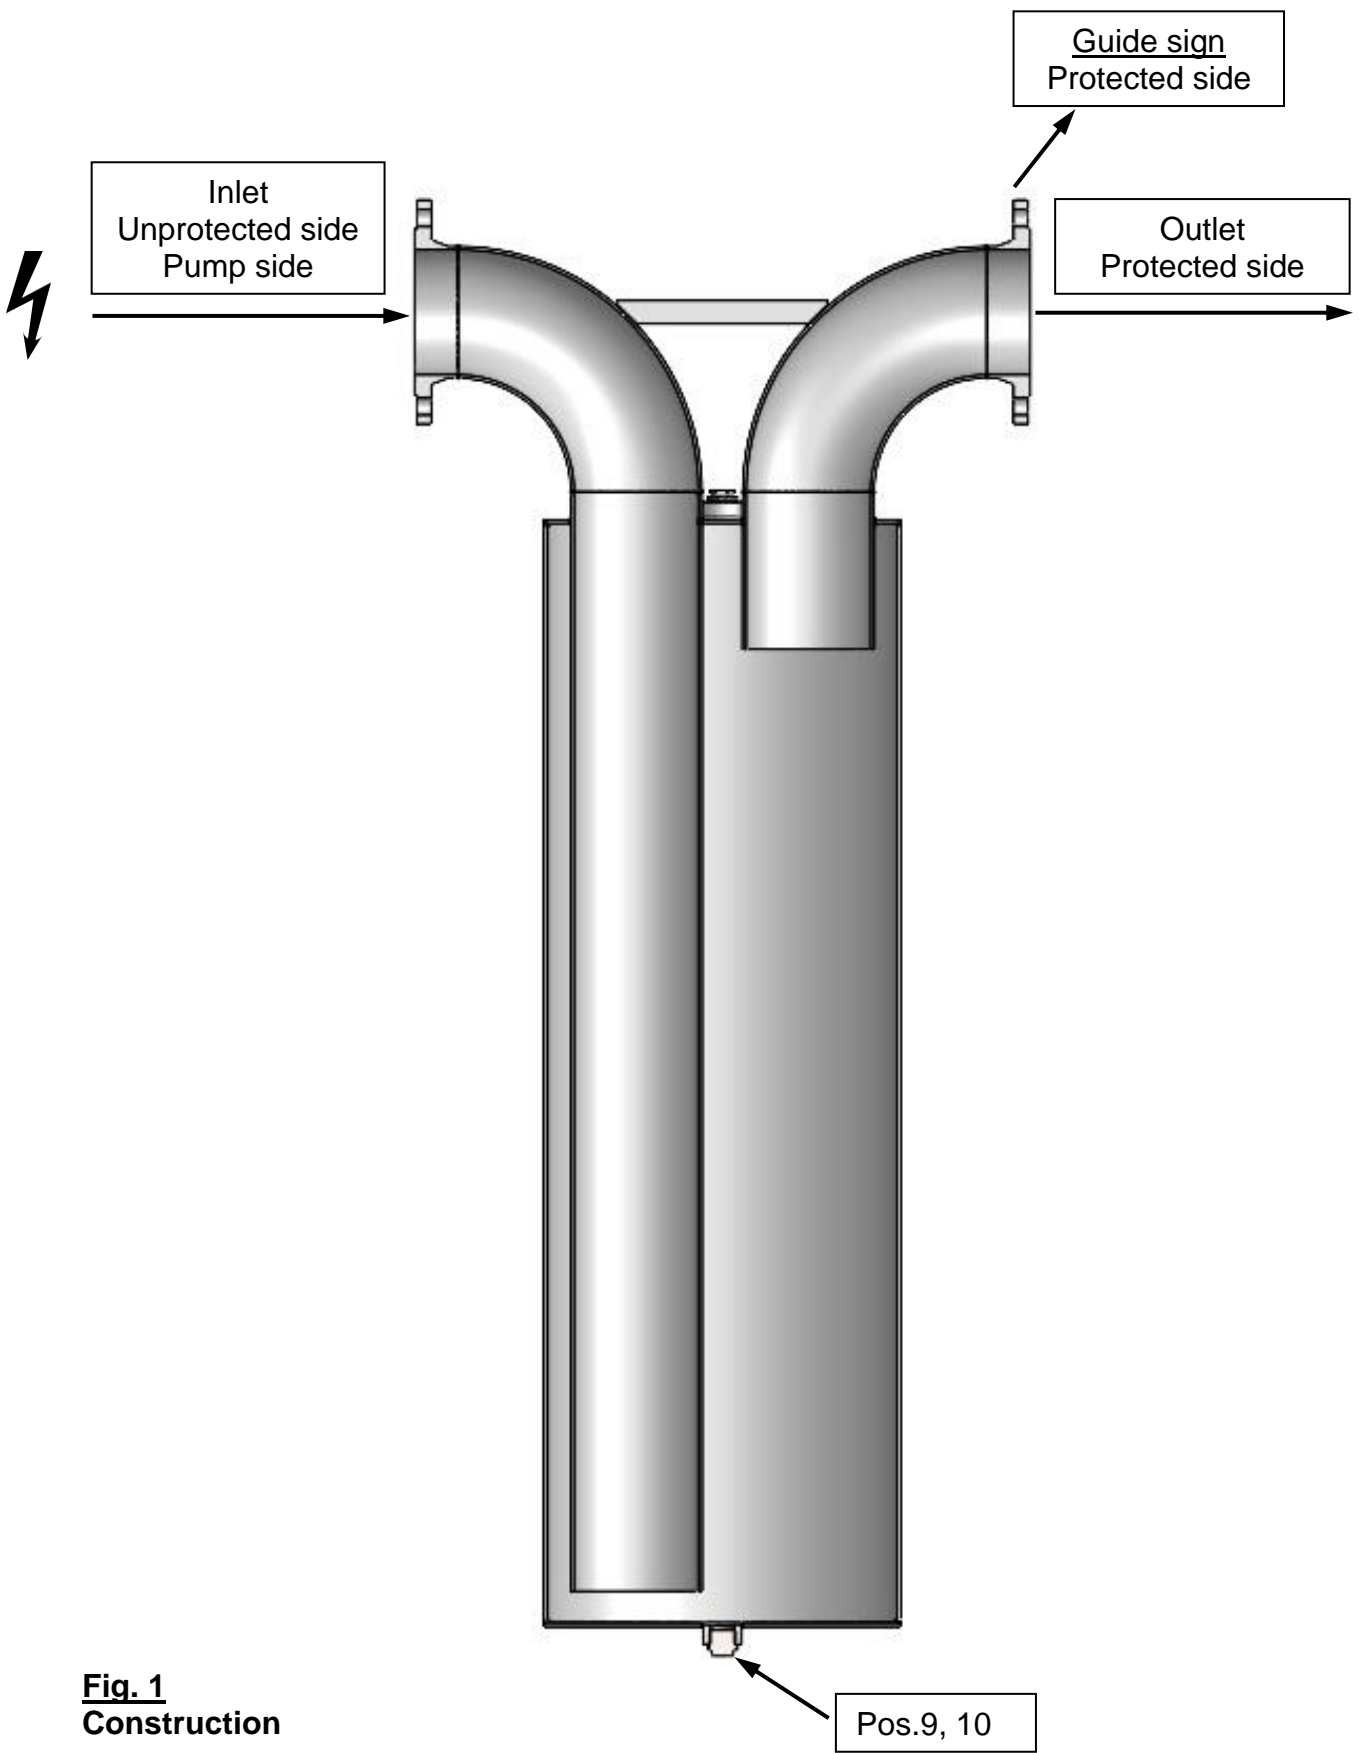

Fig. 1
- **The inline detonation flame arrester is protecting against light-back only from one side**, i.e. that it must be connected as shown in fig. 1.
(See also figure 1)
(See fig. 1)
- The protected side is marked by a label mounted radial to the flange (See fig.1)
- Spare part no. (Please refer to **fig. 1** for items)